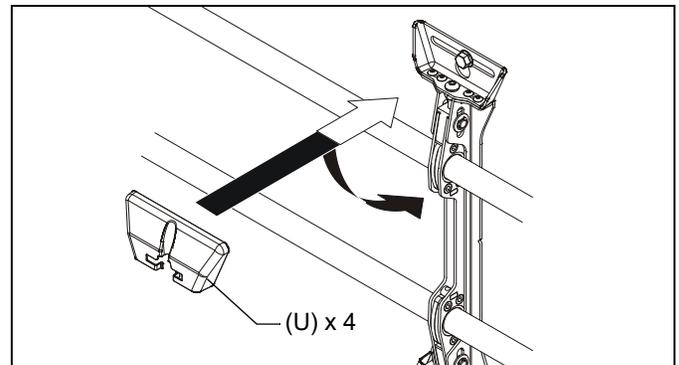

Figure 12
1. Attach wall covers (V) to top and bottom of both wall brackets. (See Figure 12)